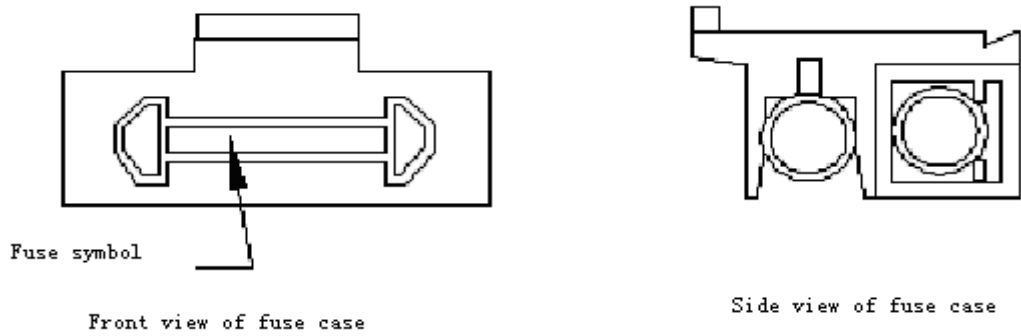
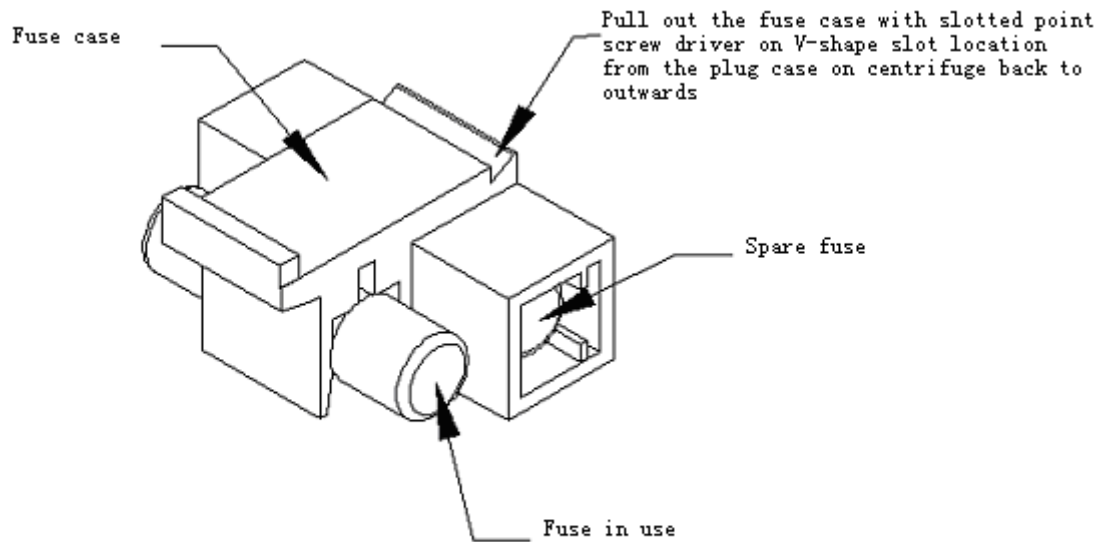

Figure 3
Figure 4
- (1) Cut off the power, and unplug the plug the power cord connected with the external electric supply socket. Then draw another end of the power cord connected with the centrifuge.
- (2) There is a fuse case equipped on the under part of electric outlet on instrument back. (See figure 3) There is a marking for fuse symbol, and find the V-shape slot on fuse case. (See figure 4) Pull out the fuse case with slotted point screw driver into the V-shape slot.
- (3) Take out the damaged fuse and replace it. The model of fuse of the centrifuge is BGXP 5×20 、 250V 2A.
(4) Put the fuse case into electric outlet.